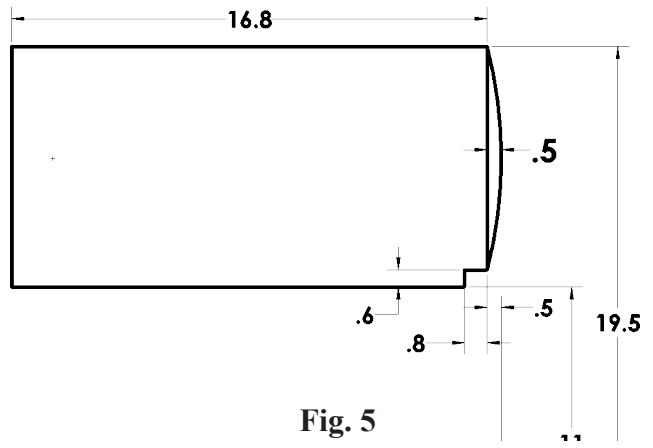

Fig. 5
Step 3. Click **Smart Dimension**  (S) on the Sketch toolbar.
Step 4. Add dimensions, **Fig. 5**. To dimension, click the midpoint  of arc and vertical line.